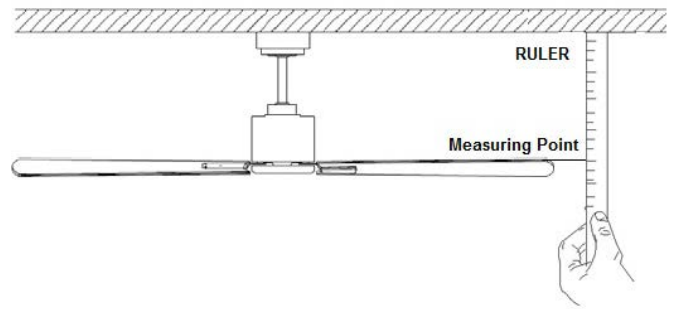

Figure 19 – Ceiling Height
3. Blade tracking may be checked simply by use of a household ruler as shown in below Figure 19. Place the ruler vertically against the ceiling and even with the outside leading edge of a blade. Note the distance of the edge of a blade same as others. Turn the blade slowly by hand to check the remaining blades. If a blade is not in alignment, the blade is either out of shape / warped or the blade screws are not evenly tightened or are loose.